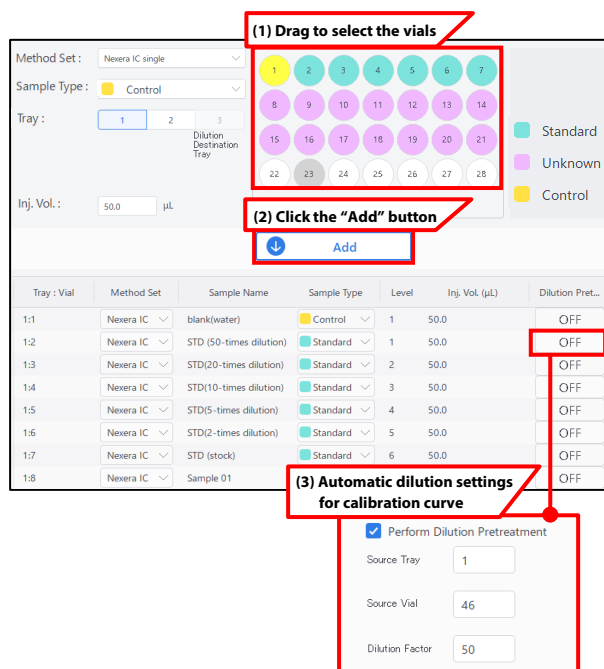

Fig. 5 Batch Generation Screen in IC Solution
IC Solution enables easy creation of batch schedules through an intuitive graphical user interface (Fig. 5, steps (1)–(3)). It also allows automatic preparation of calibration standards from stock solutions using the autosampler's dilution function. For each analysis row, automatic dilution can be performed simply by specifying the stock solution tray/vial number and dilution factor (Fig. 5, step (3)). In addition, when an additional sample requiring urgent analysis arises during an ongoing sequence, it can be inserted immediately after the current analysis.